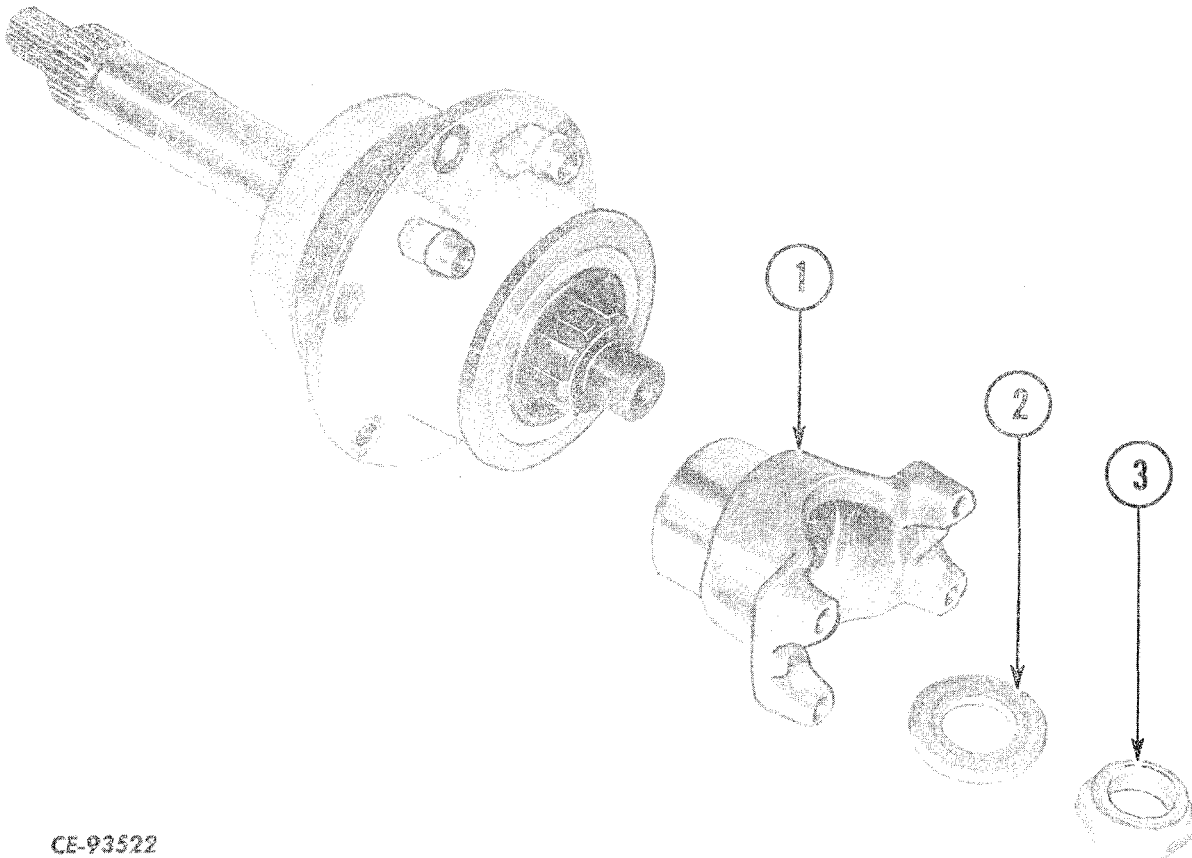

Figure 3-40
Install yoke (1, Fig. 3-40) on output shaft and secure with flat washer (2) and new lock nut (3). Tighten lock nut to the recommended torque.